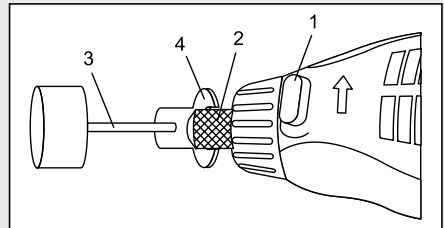

Fig. 3
2. Depress the spindle lock button (1) and slowly turn the collet nut (2) until the spindle lock button locks the spindle (Fig. 3).
4. Insert accessory (3) into collet.